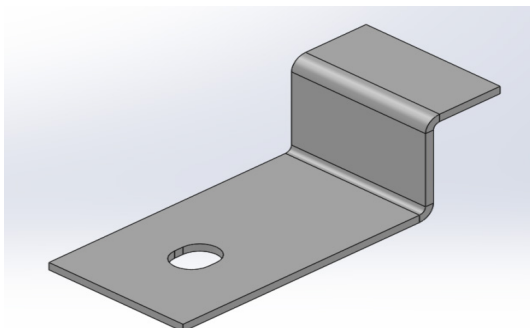
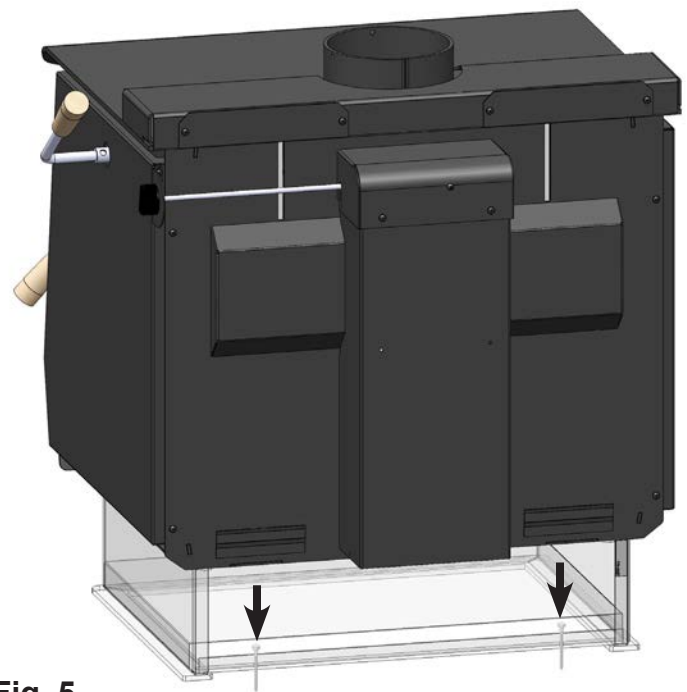

Fig. 2
Fig. 5
- For S.Z3284 Classic Base Kit use #10 screws and shipping brackets **(Fig.2)** from the firebox crate to secure the stove to the floor. **(Fig.5)**